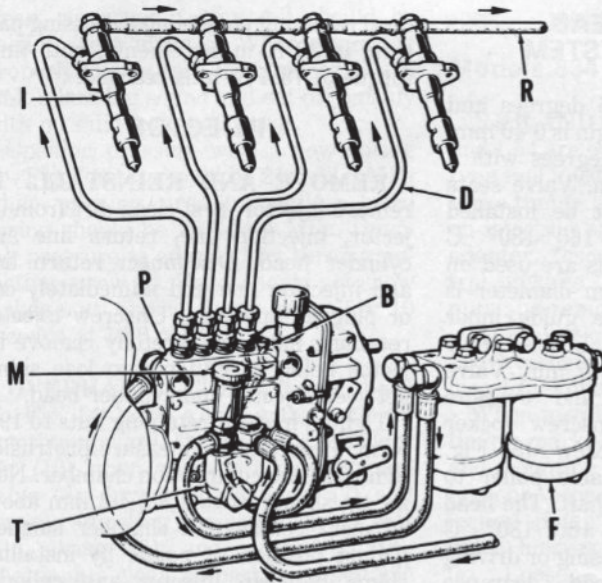
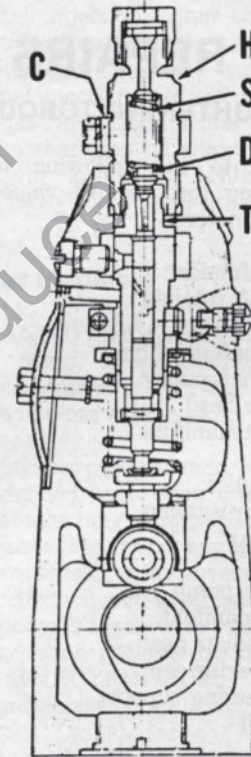

Fig. L3-4 - Fuel circuit diagram for Models 834 and L54.
Fig. L3-8 - Cross-sectional view of Bosch PES fuel injection pump.
BLEED FUEL SYSTEM. To bleed the fuel system on Models 834 and L54, open the bleed screw on fuel filter housing then operate primer (M—Fig. L3-4) on fuel transfer pump until air-free fuel flows. Retighten bleed screw. Open the fuel injection pump bleed screw (B), then operate primer (M) until air-free fuel flows and retighten bleed screw. Loosen high pressure line fittings at injectors. Rotate engine to operate fuel injection pump until air-free fuel flows from fittings, then retighten fittings.
(M). Disconnect number 1 injection line from fuel injection pump. Loosen clamp (C - Fig. L3-8) and remove delivery valve holder (H). Remove spring (S) and delivery valve (D) then reinstall delivery valve holder (H). If available, attach a spill pipe to holder. Loosen injection pump retaining nuts. Operate primer pump (M - Fig. L3-4) and rotate injection pump so fuel flows from delivery valve holder or spill pipe. Rotate injection pump until fuel just stops flowing and tighten injection pump retaining nuts to 29.4 N·m. Reinstall delivery valve and spring and connect injection line.